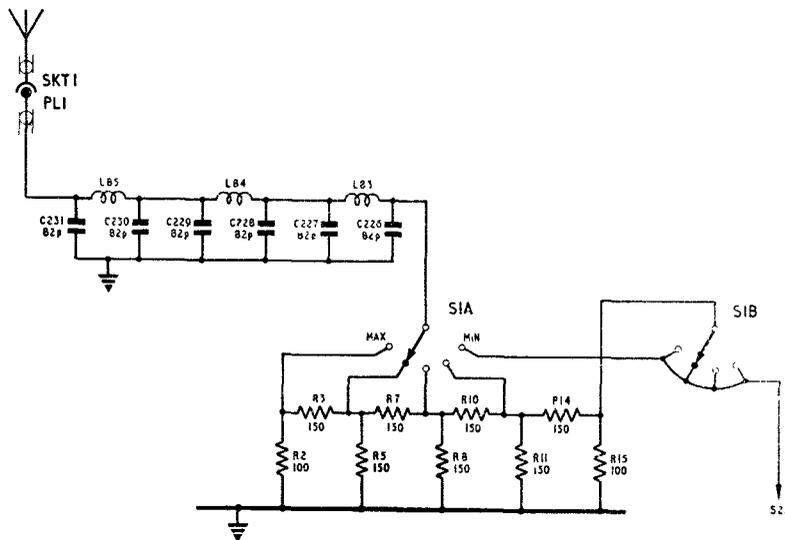

Fig. 1 Main chassis assembly 5820-99-943-3456 (Ae. attenuator): circuit
2. The signal input is connected at plug PL1 and fed via a three-section 30 Mc/s low-pass filter to the AE. ATTENUATOR switch S1A (fig. 1). The switch provides five steps of attenuation covering a range of 0 to 40dB. The signal is then fed to the AE. RANGE MC/S switch S2 on the first v.f.o. unit.